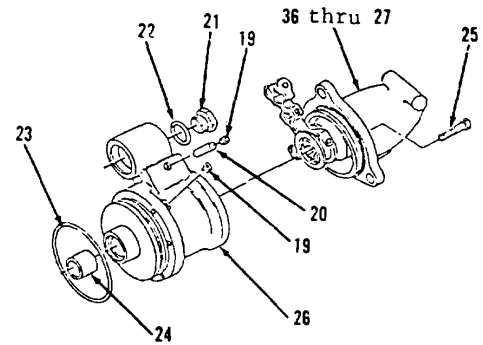
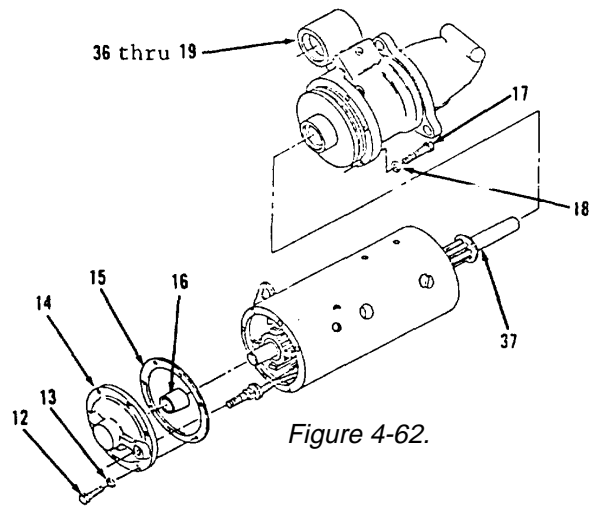

Figure 4-63.
Figure 4-62.
19. Using arbor press, install bearing (24) into head (26), Figure 4-63).
20. Aline matchmarks on items 36 thru 27 as an assembly with matchmarks on head (26).
21. Install three bolts (25) and tighten to 8 ft-lb torque.
23. Install bolt (21), pin (20) and two plugs (19).
24. Install items 36 thru 19 as an assembly on armature (37, Figure 4-62).
25. Install seven lockwashers (18) and screws (17).
26. Using an arbor press, install bearing (16) in end assembly (14).
27. Install new gasket (15) and end assembly (14).
28. Install four lockwashers (13) and screws (12).